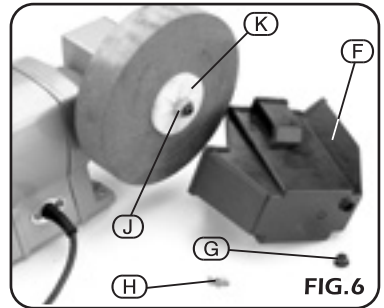

FIG.6
- **REPLACING THE WHETSTONE (Fig.6):**